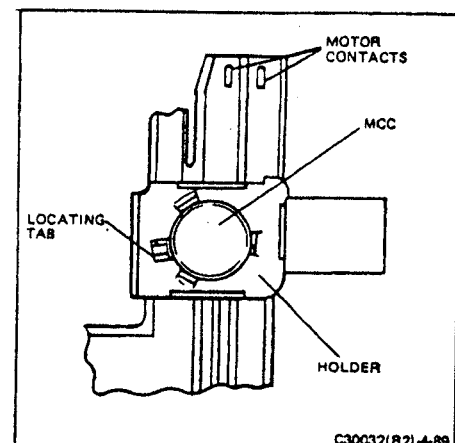

FIGURE 4-89 LOCATING TAB POSITION ON MCC
- (a) Referring to Figure 4-89, position the MCC on the circuit.
6. Refer to Figure 4-89 and press the MCC holder into place on the MCC.